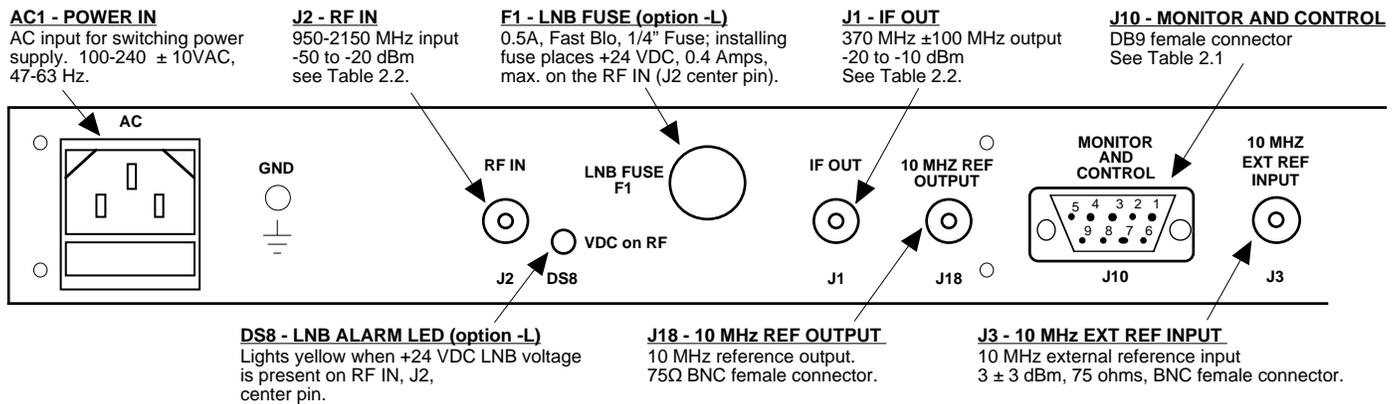

FIGURE 2.2 2016-02-370 Rear Panel I/Os
Figure 2.2 shows the input and output connectors on the rear panel.
1. Connect a -50 dBm to -20 dBm signal to RF IN, J2 (Figure 2.2)